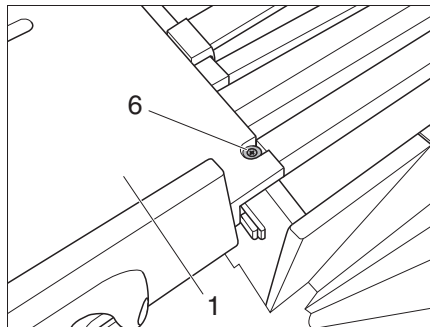

Fig. 181 Locking bolt for the pull out extension
- Secure the pull out extension (Fig. 181,1) in the locking bolt (Fig. 181,6) or use the locking bolt (Fig. 181,6) as a stop for the pull out extension (depending on the floor plan).
- Lift the pull out extension (Fig. 181,1) out of the locking bolt (Fig. 181,6).